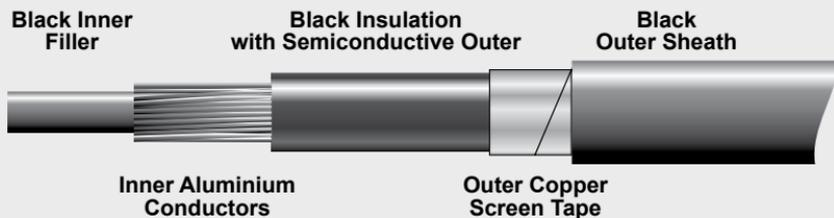

Figure 22.
*The diagram below (Figure 22) shows the different layers of the HVSC Plus cable and indicates their names as referred to in the following instructions:*